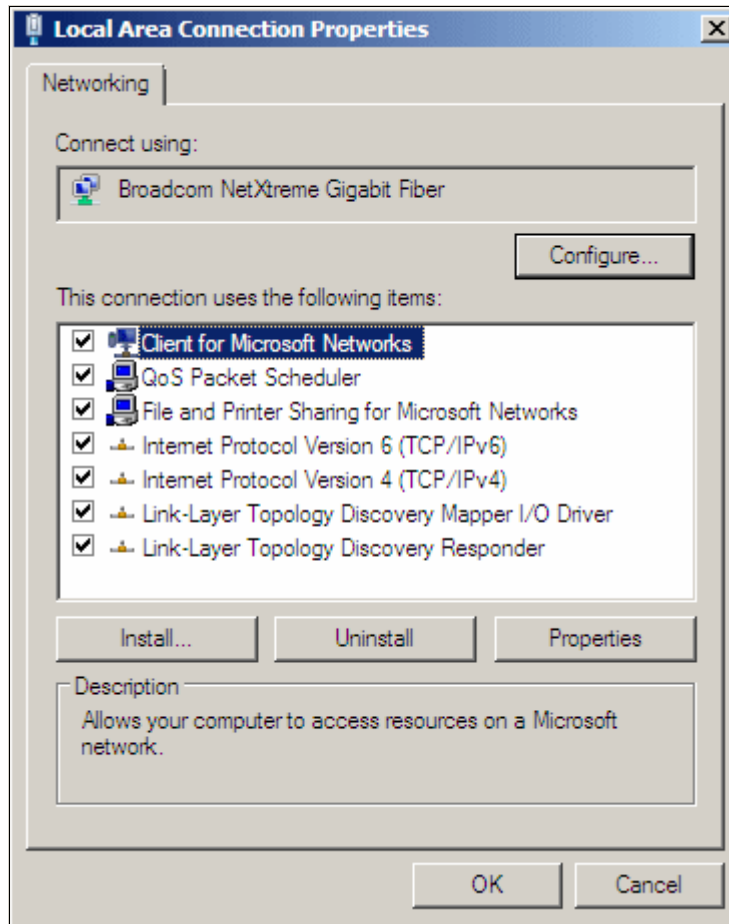

Figure 6-5 IP configuration
11. On the “Local Area Connection Properties” panel (Figure 6-5), select **Internet Protocol Version 4 (TCP/IPv4)**. Click **Properties**.